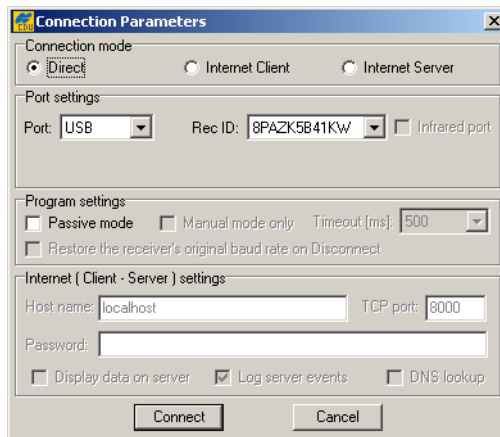

Figure 2-9. USB Connection Parameters
- for USB connections (Figure 2-9):